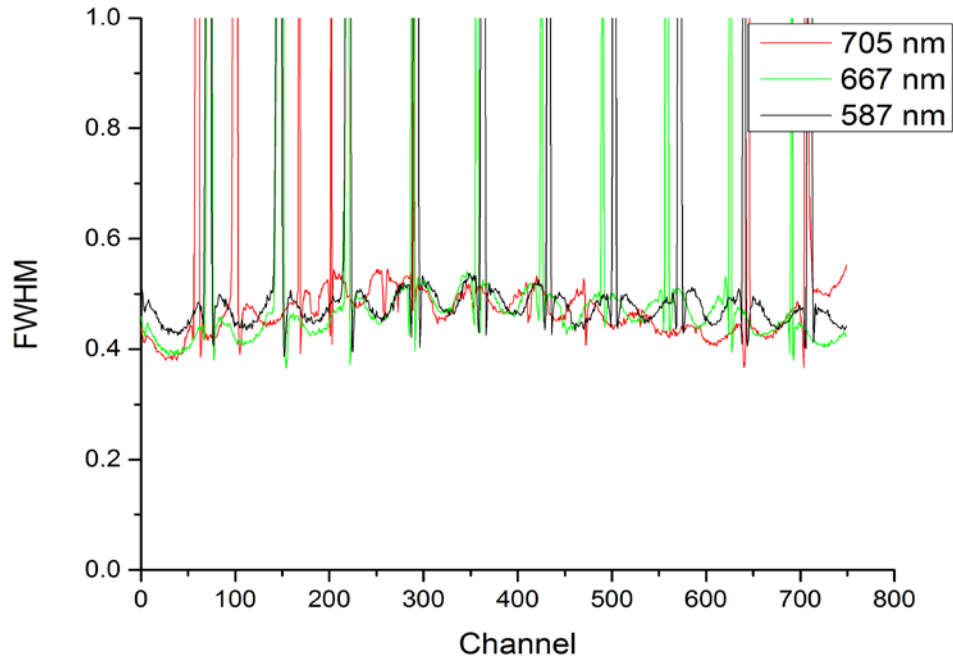

Figure 9: Spectral widths vs. spatial position. Manual Gaussian peak fitting calculated a FWHM of 1 nm.
@ 587 nm	~1 nm (See Fig. 9)
@ 705 nm	~1 nm (See Fig. 9)
* automatic script measured FWHM close to .5 nm, as shown in Figure 9, but manual Gaussian peak fitting arrive at 1 nm.